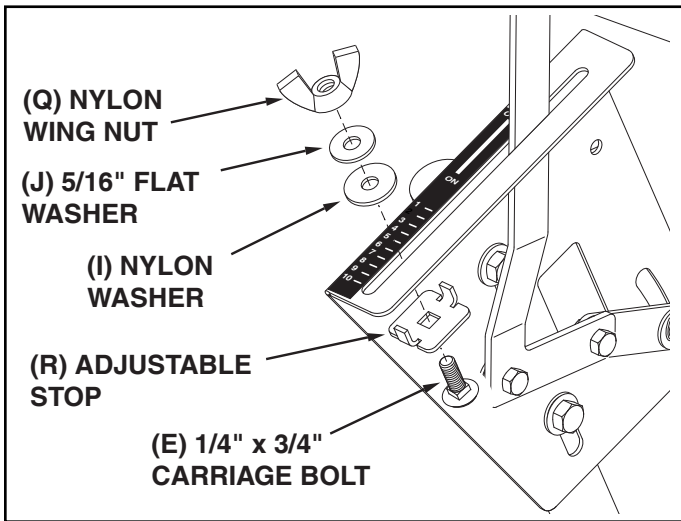

FIGURE 11
23. Place the adjustable stop (R) into the "ON" end of the slot in the top of the flow control mounting bracket. Secure with the 1/4" x 3/4" carriage bolt (E), a nylon washer (I), a 5/16" flat washer (J) and the nylon wing nut (Q). See figure 11.